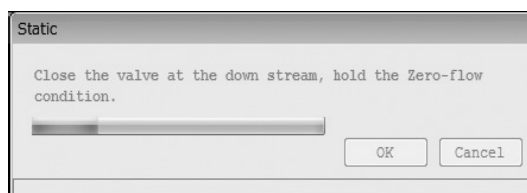

Fig.119
- ④ During the check, a progress bar will appear as shown in Fig. 119, allowing for the confirmation of the state of the check.